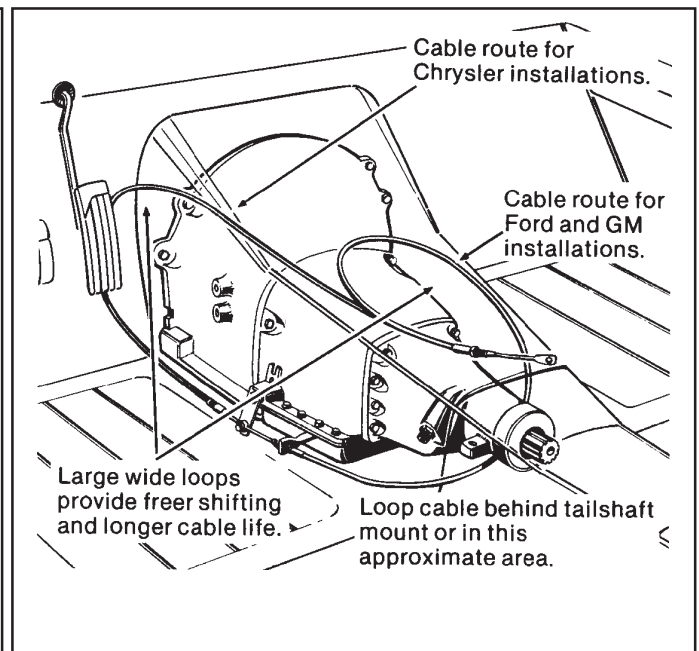

Figure 4
STEP 8. Install the shifter mechanism into the vehicle. Slide the shifter cable through the carpet and the hole in the floor. Bolt the shifter down using four 1/4" x 1-1/2" hex bolts and nuts. If required use 1/4" washers as shims between the shifter mechanism and the floor to level the shifter. **ROUTE THE CABLE AS SHOWN IN FIGURE 4, AVOID SHARP BENDS WHICH WILL KINK AND DAMAGE THE CABLE.** Use cable clamps or tie wraps to secure the cable housing to the chassis to avoid contact with hot engine or exhaust system.
STEP 12. Route the shifter cable according to **Figure 4**. Avoid kinks and sharp bends and route the cable away from hot engine or exhaust parts.
STEP 18. Route the shifter cable according to **Figure 4**. Avoid kinks and sharp bends and route the cable away from hot engine or exhaust parts.
STEP 23. Route the shifter cable according to **Figure 4**. Avoid kinks and sharp bends and route the cable away from hot engine or exhaust parts.